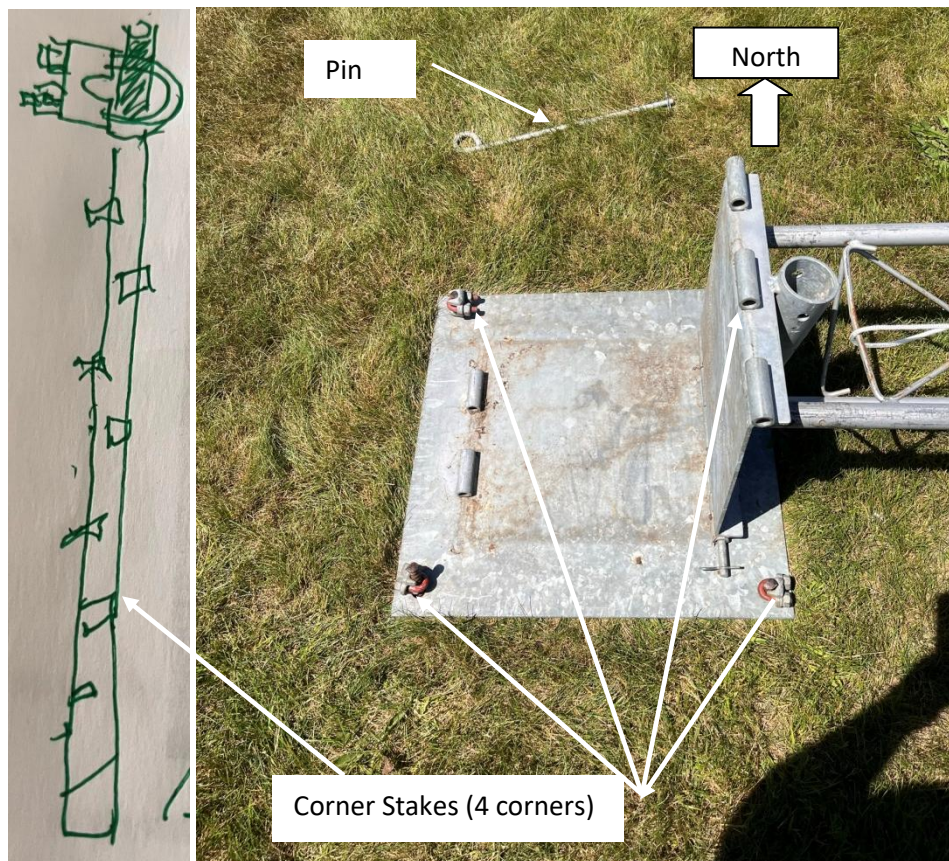

Figure 4 Square Tower Base Installation: Square tower base located 150' from the BWS on the Reference line.
- **The Square Tower base is set at the SSB tower base position.** This base, shown in Figure 4, has four holes at the corners that are staked down. The stakes used are the ones with the "U" clamps installed.